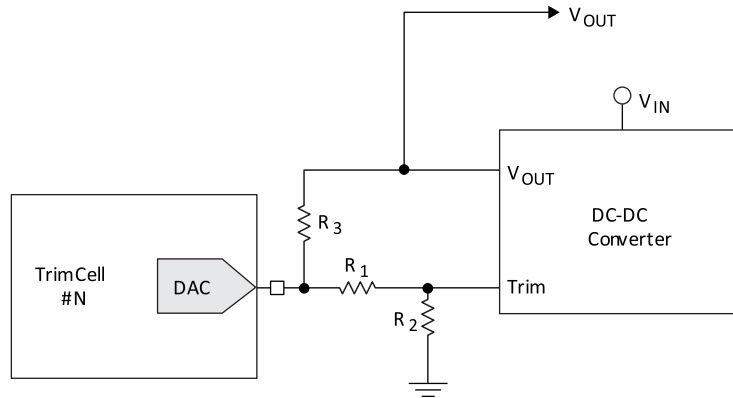

Figure 6.21. TrimCell Driving a Typical DC-DC Converter
*Indicates resistor network, see Figure 6.21.
Figure 6.21 shows an example resistor network between the TrimCell #N in the ASC and the DC-DC converter. The values of these resistors depend on the type of DC-DC converter used and its operating voltage range. The calculation to determine the values of the resistors R1, R2, and R3 is performed automatically in the Platform Designer software.